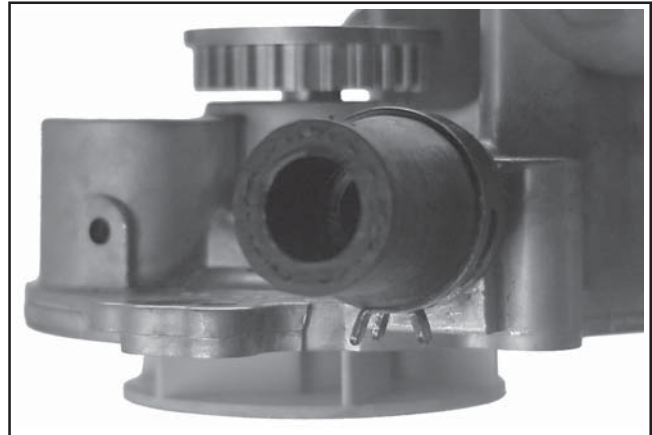

Figure 11-60. First Clamp and Hose Section Installation.
5. Apply rubber lubricant to the inner surface of the short hose section. Assemble the hose to the outlet of the water pump and secure with the larger diameter clamp. Orient the clamp so the tangs extend down in the 5 to 6 o'clock position, towards the impeller of the pump. See Figure 11-60.